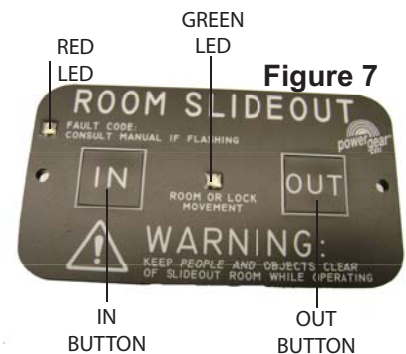

Figure 7
2. Determine location to mount touchpad (Figure 7). Location needs to be in view of slideout room and have a minimum depth of 1" inside the wall. Cut 2 7/8" wide x 1 3/4" high rectangular opening in wall to mount the touchpad.
3. Route and attach touchpad harness to where touchpad will be mounted. Mount touchpad with (2) screws after system has been programmed.
3. Remove the touchpad (Fig 7) from the wall.
4. Press and hold the "Set Stops/Clear Fault" button on the back of the wall touchpad for 5 seconds. (Figure 4). Both LED's will light while the button is held down. (Figure 7)
- The GREEN LED indicates system operation. (Figure 7)
- The RED LED indicates a fault or problem with the system. (Figure 7) Refer to Fault Diagnostics Mode in this manual for additional information.
4. Press and hold the OUT button (Figure 7). If equipped with room locks, the room locks will first retract prior to room movement. Reference the GREEN LED indications above to determine component movement.
2. Press and hold the IN button (Figure 7) If equipped with room locks, the room locks will automatically extend when the room is fully retracted. Reference the GREEN LED indications above to determine component movement.
The control has the ability to detect several faults. When a fault is detected, the room movement will stop and the RED LED (Figure 7) will flash a number of times corresponding to a specific fault code listed below.
- To determine the fault, count the number of GREEN and RED LED flashes on the wall touchpad (Fig 7) The number of flashes corresponds to a fault code number.
1. Remove the touchpad (**Fig 7**) from the wall
2. Press and hold the "Set Stops/Clear Fault" button on the back of the wall touchpad for 5 seconds (**Figure 4**). Both LED's will light while the button is held down. (**Figure 7**)
- b. Press the IN button on the front of the wall touchpad (Fig 7) until the room is fully retracted.